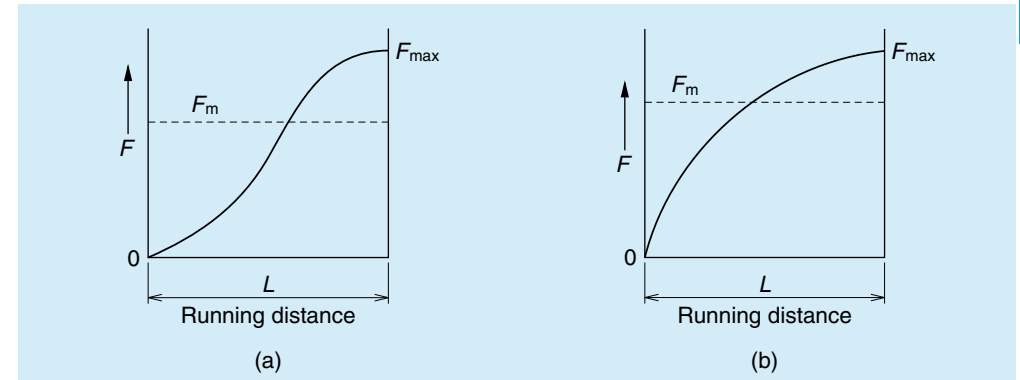

Fig. 2.5 Load that changes in sinusoidal pattern
**(3) When load changes in sinusoidal pattern (Fig. 2.5)**